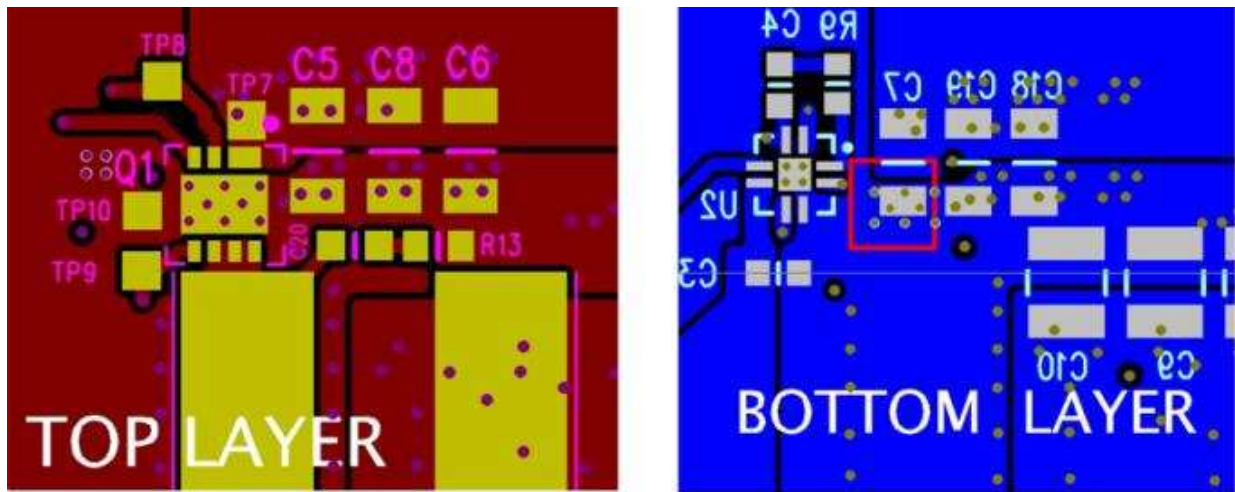

Figure 33. Recommended PCB Layout (Top Down)
- The placement of the input capacitors relative to the power block's VIN and PGND pins should have the highest priority during the component placement routine. It is critical to minimize these node lengths. As such, ceramic input capacitors need to be placed as close as possible to the VIN and PGND pins (see Figure 33). The example in Figure 33 uses 6 × 10-μF ceramic capacitors (TDK Part # C3216X5R1C106KT or equivalent). Notice there are ceramic capacitors on both sides of the board with an appropriate amount of vias interconnecting both layers. In terms of priority of placement next to the power block, C5, C7, C19, and C8 should follow in order.
- The switching node of the output inductor should be placed relatively close to the power block VSW pins. Minimizing the node length between these two components will reduce the PCB conduction losses and actually reduce the switching noise level. In the event the switch node waveform exhibits ringing that reaches undesirable levels, the use of a boost resistor or RC snubber can be an effective way to easily reduce the peak ring level. The recommended boost resistor value will range between 1 Ω to 4.7 Ω depending on the output characteristics of driver IC used in conjunction with the power block. The RC snubber values can range from 0.5 Ω to 2.2 Ω for the R and 330 pF to 2200 pF for the C. Please refer to Snubber Circuits: Theory, Design and Application (SLUP100) for more details on how to properly tune the RC snubber values. The RC snubber should be placed as close as possible to the Vsw node and PGND (see Figure 33). ⁽¹⁾
(1) Keong W. Kam, David Pommerenke, "EMI Analysis Methods for Synchronous Buck Converter EMI Root Cause Analysis", University of Missouri – Rolla
- Use the smallest drill size allowed in your design. The example in Figure 33 uses vias with a 10-mil drill hole and a 16-mil capture pad.